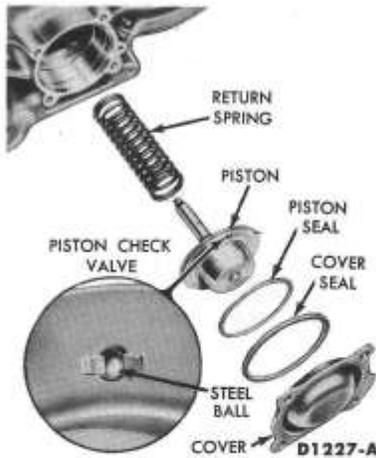

FIG. 22—Low Servo Assembly
1. Remove 2 low servo cover retaining bolts which are nearest to 180° apart (Fig. 22). Install two 1-inch long bolts ($\frac{9}{16}$ -18), or any two front pump attaching bolts, into the bolt holes. Run the bolts in until they bottom.
6. Place the piston return spring, piston, and cover in position in the case. The low servo piston ball check valve (Fig. 22) must be at the top, when the transmission is in normal running position. Start the two 1-inch long bolts in bolt holes 180° apart.